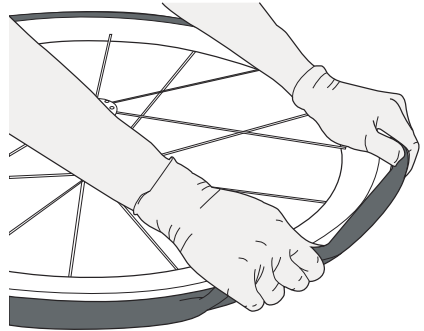

Figure 36.
8. Pick up the wheel and slide the tire on the remaining few inches by pushing with your thumbs (Figure 36).